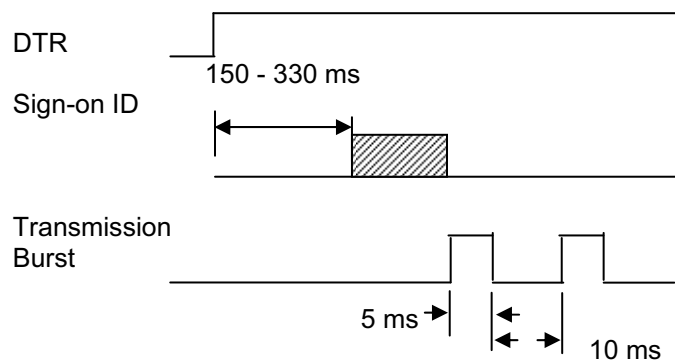

Figure 3-1. Timing For ID Sign-on and Transmission Bursts (*Old* version).
Timing for the ID Sign-on and transmission bursts (5 ms with 10 ms between bursts) are shown in Figure 3-1.
*The “Transmission Burst” timing shown in Figure 3-1 only applies to the **old** version of the Reader. The **new** version does not apply the 10 ms gap between transmission bursts but rather transmits the full message without any delays. The Sign-on ID delay is in the range between 150 to 330 milliseconds.*